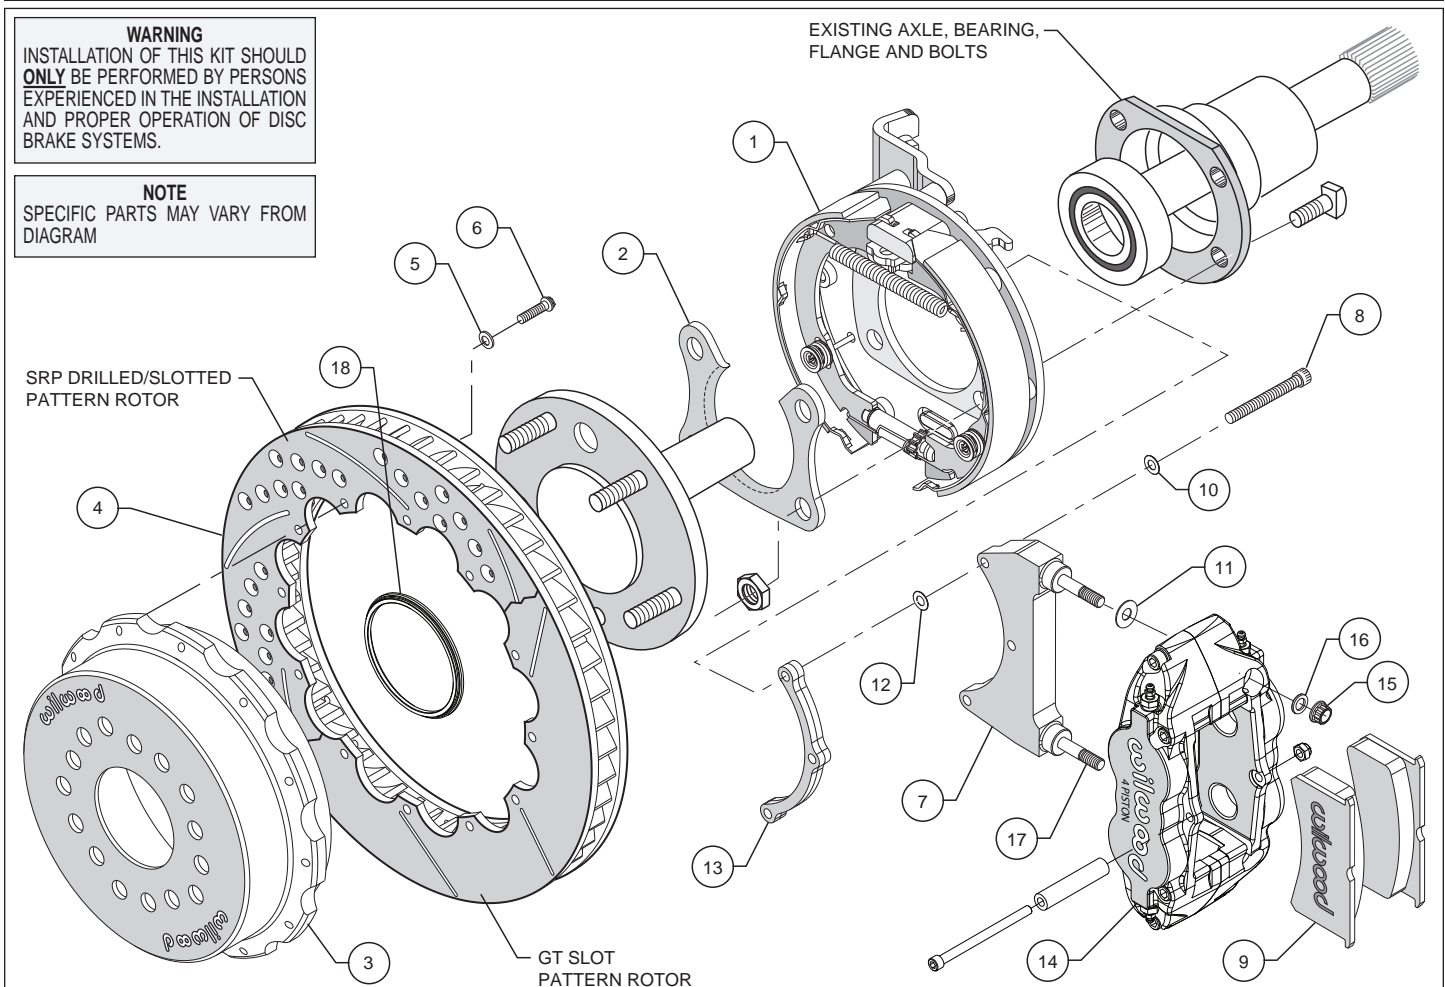

Figure 1. Typical Installation Configuration
- Slide the bracket kit assembly (1) onto the housing flange and then insert the axle assembly through the center hole of the bracket kit assembly (1). Align the bearing retainer, as shown in Figures 1 and 4, and secure using the stock Original Equipment Manufacturer (OEM) bolts and nuts. Stock OEM hex nuts that retain the bracket kit assembly (1) and retainer (2) should be on the wheel side of the bracket. Apply red *Loctite*® 271 to the stock OEM bolt threads and torque to OEM specifications. Make sure the bracket kit assembly (1) brake pads are FACING OUTWARD TOWARDS THE WHEEL.
•**NOTE:** Please reference the caution statement at the beginning of the assembly instructions. The caliper mounting bracket assembly (7) should be installed first with clean, dry threads on the mounting bolts (8). Install the bracket from the rear side of the bracket kit assembly (1) by sliding bolt (8) through flat washer (10), bracket (7), shim washer (12) and finally through the spacer (13), see Figure 1. **NOTE:** End of bolt should not exceed inside face of insert. The bracket must tighten squarely against the back side of the bracket kit assembly (1). Inspect for interference from casting irregularities, machining ridges, burrs, etc. Use one thin shim (12) between the bracket (7) and spacer (13) during initial trial fitting.
•Install one shim (11) over each pre-installed stud (17) on the radial mount bracket (7). Slide the caliper (14) in place over the studs and rotor, then install the washer (16) and lock nut (15) to hold the caliper in place. Snug the lock nuts (15) and check that the rotor (4) is centered in the caliper (14). Add or subtract .015" shims (12) as necessary between the caliper mounting bracket (7) and the spacer (13) to center the caliper (14).
•Remove the caliper center bridge pad retainer bolt, nut, and tube from the caliper. Slide the brake pads (9) into place. They should install easily without interference. Check that the outside radius of the brake pad is aligned with the outside diameter radius of the rotor face. Add or subtract shims (11) between the caliper (14) and mount bracket (7) to gain the proper alignment. Reinstall the center bridge pad retainer tube, bolt, and locknut. The locknut should be snug without play in the bolt or tube. Be cautious not to over tighten.
•Adjust the parking brake shoes outward (using a drum shoe adjustment tool available at your local auto parts store) while spinning the hat (3) until a slight drag is felt against the hat/drum. Remove the lug nuts that were holding the hat/rotor in place. Install the wheel and lug nuts. Check to see that the wheel rotates freely without interference.
•Once all clearances have been checked, remove the wheel, caliper, hat/rotor from the bracket kit assembly (1). Secure the caliper mounting bracket (7) to the bracket kit assembly (1) using red *Loctite*[®] 271. Torque bolts (8) to 180 in-lb. Reinstall the hat/rotor assembly and again use lug nuts to hold it in place. Lubricate caliper mounting studs and nuts with lightweight oil, reinstall the caliper, torque the caliper nuts (15) to 30 ft-lb.
•**NOTE:** Clevis and cable kits which attach to the parking brake assembly are not included in the Wilwood parking brake kit. Wilwood offers a generic style parking brake cable kit, P/N 330-9371 for this application which can be ordered separately from your local Wilwood dealer or by calling Wilwood customer service at (805) 388-1188.